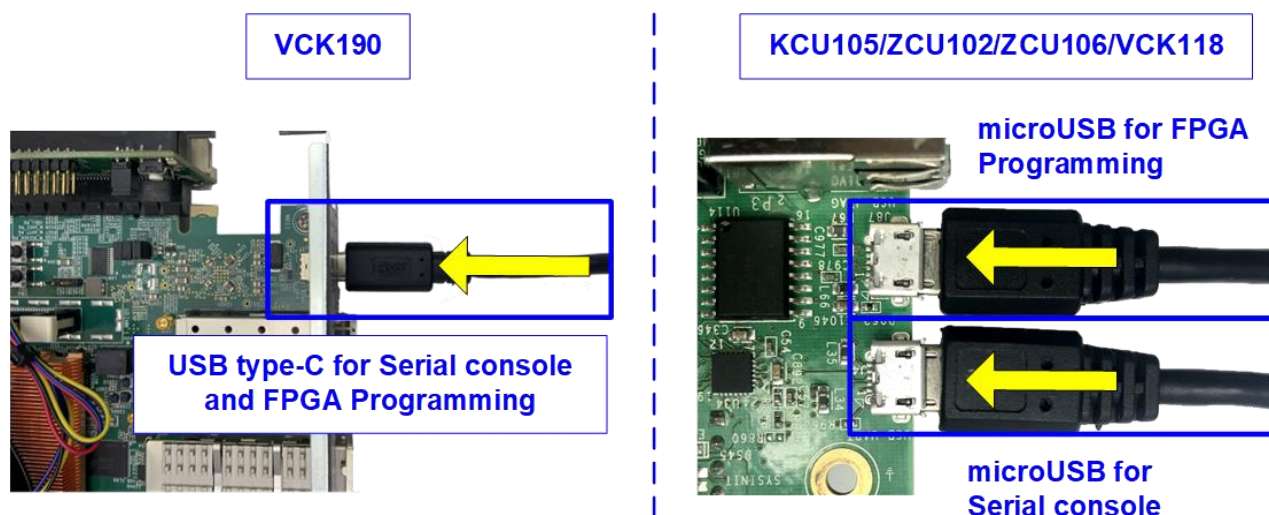

Figure 2-4 USB cable connection
- 3) Connect USB cable between FPGA board and PC for FPGA programming and Serial console as shown in Figure 2-4